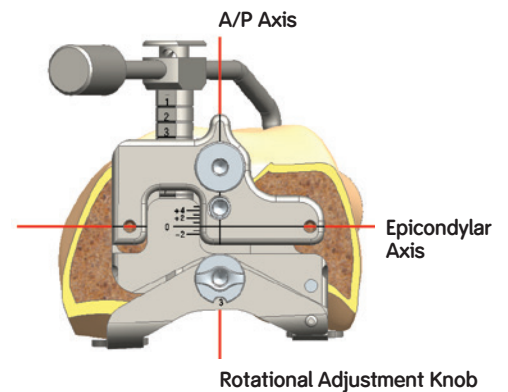

Figure 15
- 4 Adjust the external rotation of the sizing guide to be aligned anatomically with the epicondylar and/or A/P axis. This can be achieved by turning the rotational adjustment knob (0-6°) using a hex screwdriver (Figure 15).